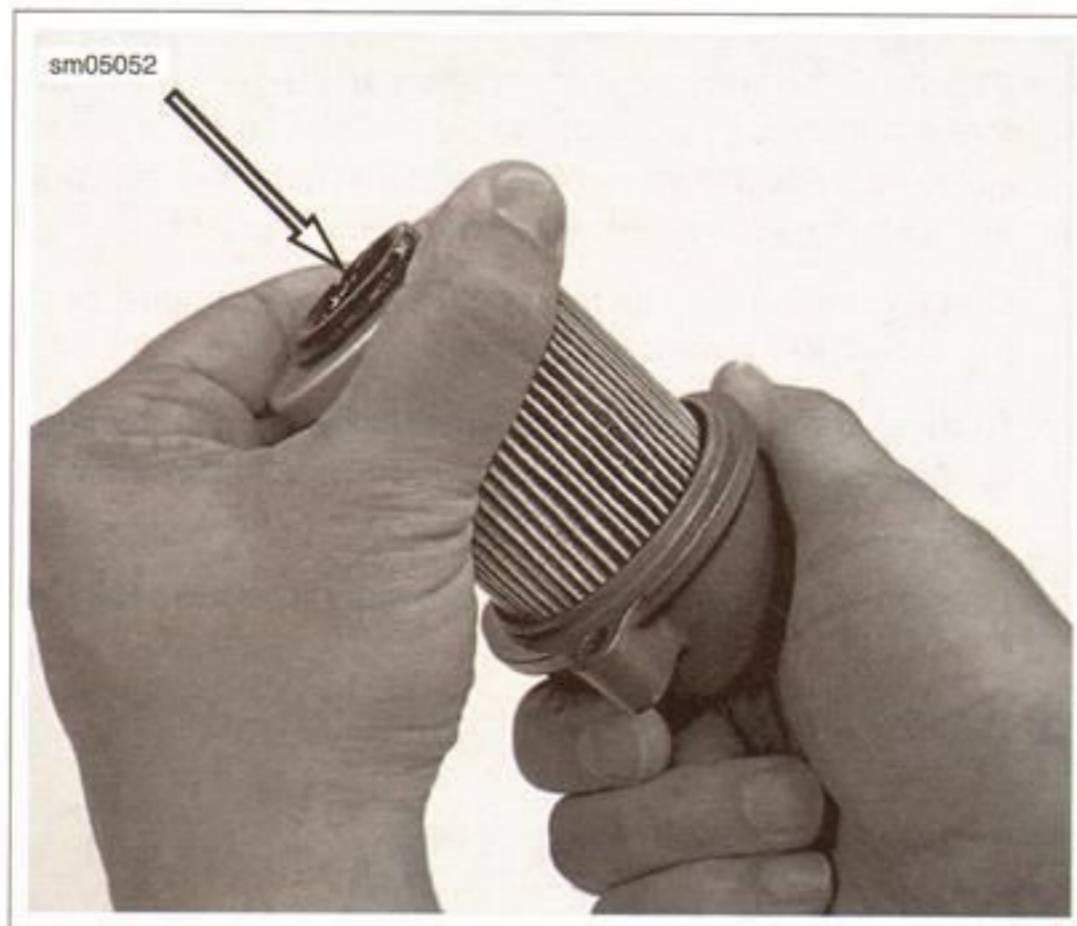

Figure 3-138. Rubber Seal
6. See Figure 3-138. Apply a light film of clean engine oil to the rubber seal on the filter.